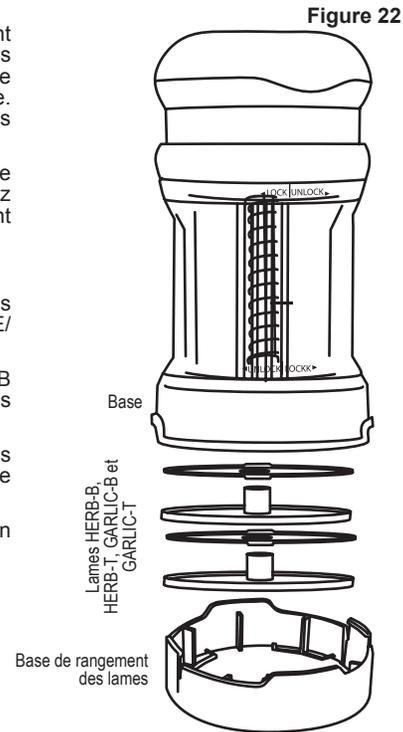

Figure 22
6. Placez les lames Herb-B, HERB-T, GARLIC-B et GARLIC-T dans la base de rangement des lames (Figure 22).
6. Stack the Herb-B, HERB-T, GARLIC-B and the GARLIC-T Blades in the Blade Storage Base (Figure 22).